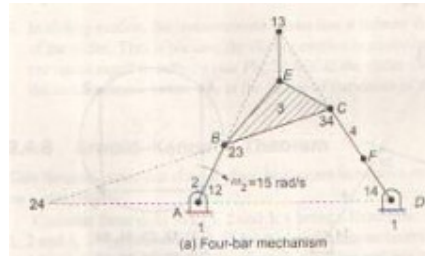
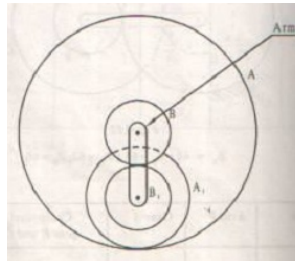

Fig. 2.8
Fig. 4.4
- In a four bar mechanism shown in fig 4.4, link 2 is rotating at angular velocity ω2. locate all the instantaneous centers of the mechanism & find a) the angular speeds of link 3 & 4, the linear velocity of links 3 & 4, the linear velocities of points E & F as shown in the figure 2.8